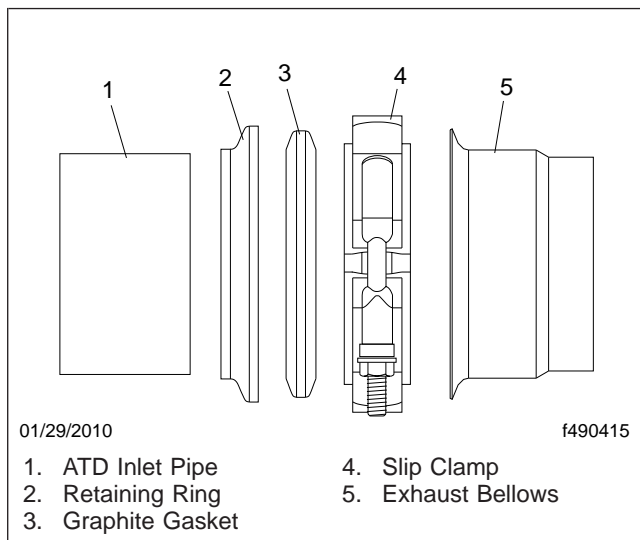

Fig. 4, Aft Facing Slip Clamp Installation
8. Slide the slip clamp, with the retaining ring and graphite gasket ring, on the ATD inlet pipe. See Fig. 4 for proper installation.